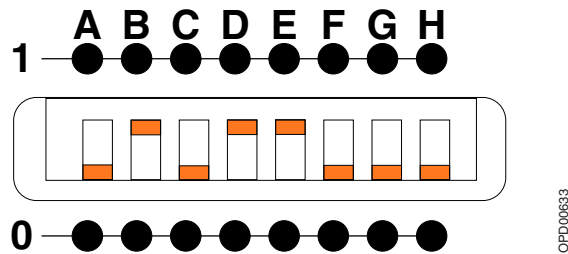

Fig. 3 Function switches setting
2. Set the function switches (see pos 7 / Fig. 2) according to Fig. 3.